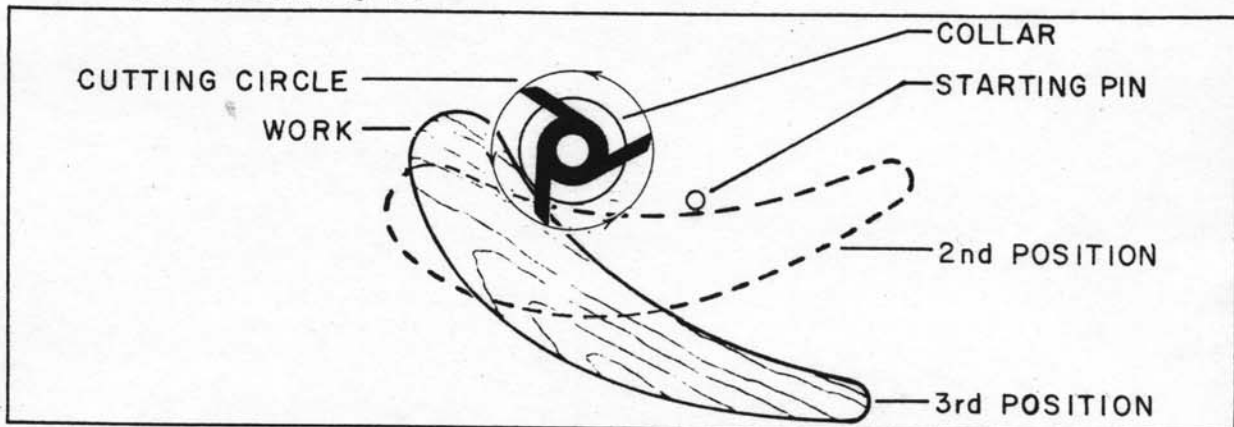

Fig. 20
3. After the cut has been started, the work is swung free of the starting pin and rides only against the collar as shown in the third position in Fig. 20. ALWAYS FEED AGAINST THE ACTION OF THE CUTTER.